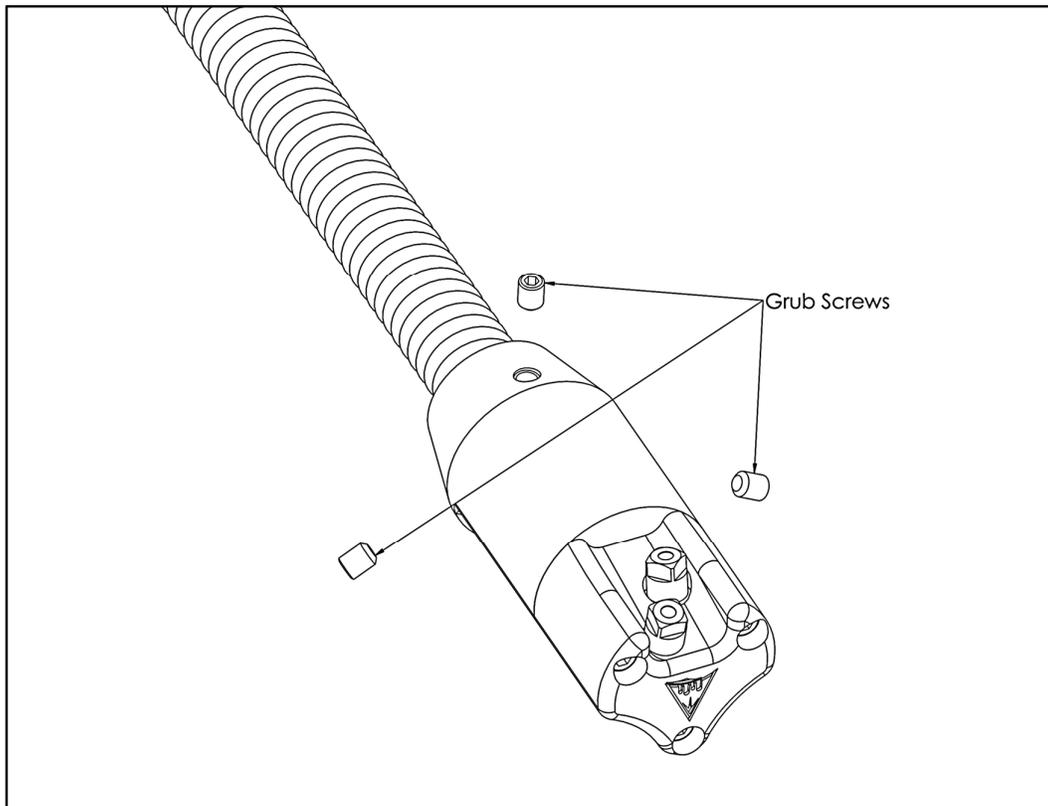

Figure 32. Grub screws x3 for attachment onto spring
- Loosen the three grub screws shown in *Figure 32*.